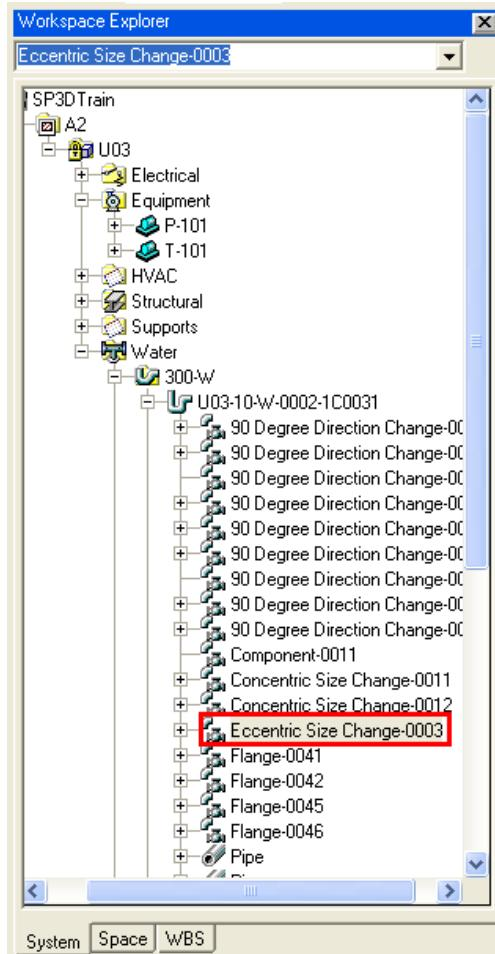

Figure 16: Eccentric Reducer Located on the Workspace Explorer
2. Locate the **Eccentric Size Change-0003** from the **Workspace Explorer**, as shown in Figure 16, to highlight it in the graphic view.